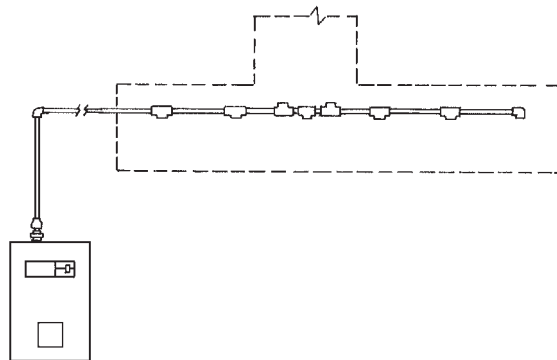

FIGURE 7
2. Based on the piping sketch developed in the "System Design" section of this manual, install the supply line and position the tees at points where nozzles must be installed. See Figure 7.